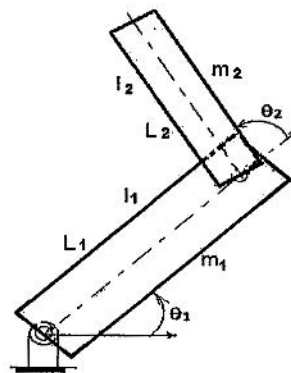

Fig. Q5
5. A 2-DOF robotic manipulator is shown in Fig. Q5. Using the Lagrangian method derive the equations of motion of the manipulator in matrix form. Assume the centre of mass for each link is at the centre of the link. Following are the moments of inertia, masses, lengths and angular displacements of the two links: I_1 & I_2 , m_1 & m_2 , L_1 & L_2 and θ_1 & θ_2 .